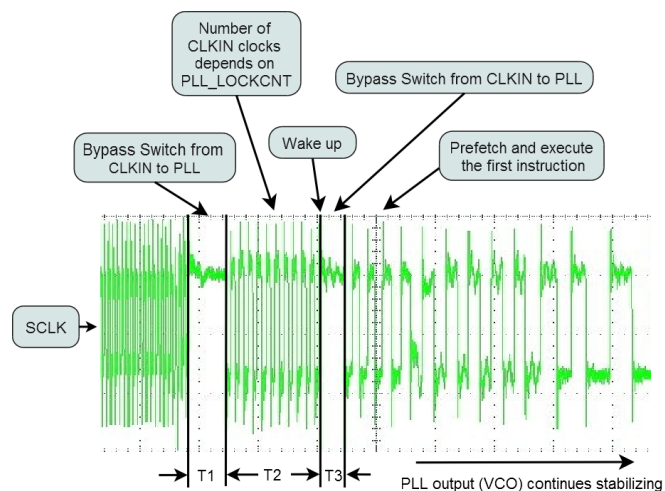

Figure 3. SCLK During PLL Frequency Change
In order to avoid glitches on CCLK and SCLK when changing the VCO frequency, the PLL is automatically bypassed before applying the new MSEL/DF settings, and pulled back after its output stabilizes. As a result, there are two periods of transition time for disabling and enabling bypass. Figure 3 is a recording of SCLK when MSEL is changed in Full On mode. T1 and T3 are the transition times dedicated to “Bypass Switch from PLL to CLKIN” and “Bypass Switch from CLKIN to PLL”, respectively. T2 is the period for the internal PLL lock counter to expire. Its value (in units of CLKIN cycles) depends on the setting of PLL_LOCKCNT. After time T3, the processor resumes its normal operation of executing instructions. It may be noted that the frequency of SCLK is not uniform after T3. This is because PLL_LOCKCNT is set to a relatively small number (10) in this particular case, which is not long enough for the PLL to converge after its